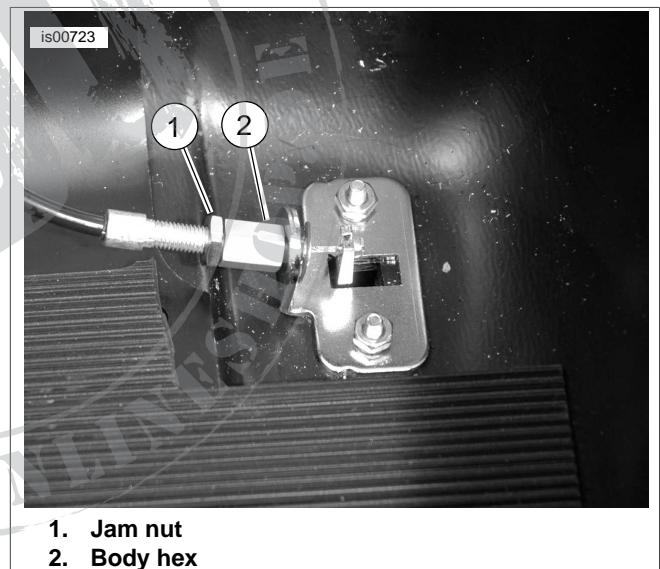

Figure 8. Adjust Cable Assembly
- See Figure 8. Back jam nut (1) away from body hex (2).